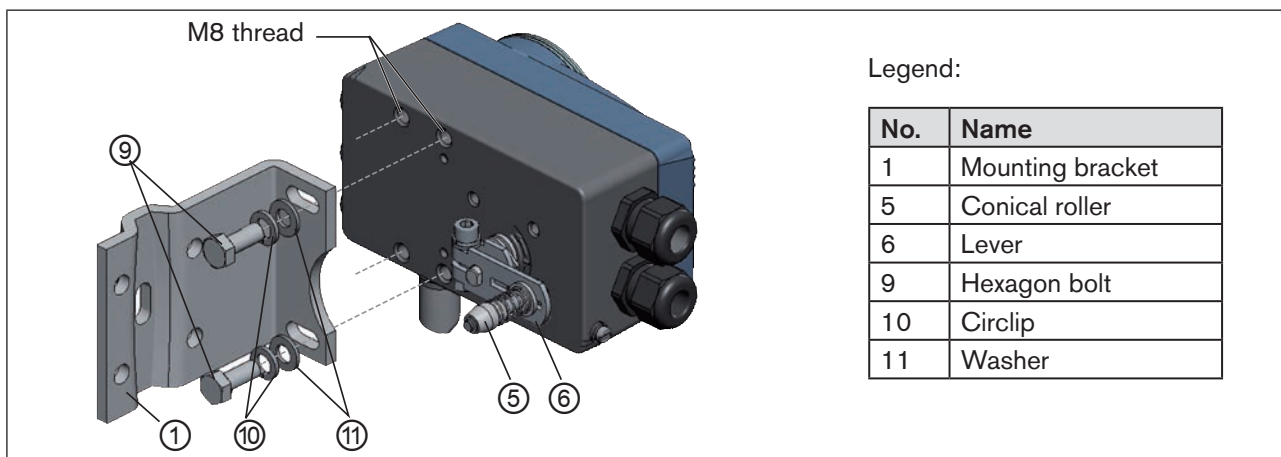

Figure 16: Attaching mounting bracket
→ Attach mounting bracket ① to the back of the Type 8792/8793 with hexagon bolts ⑨, circlip ⑩ and washers ⑪ (see "Figure 16").
The conical roller ⑤ on the lever ⑥ of the position sensor must be able to move freely in the hoop (refer "Figure 16") along the entire stroke range of the actuator.